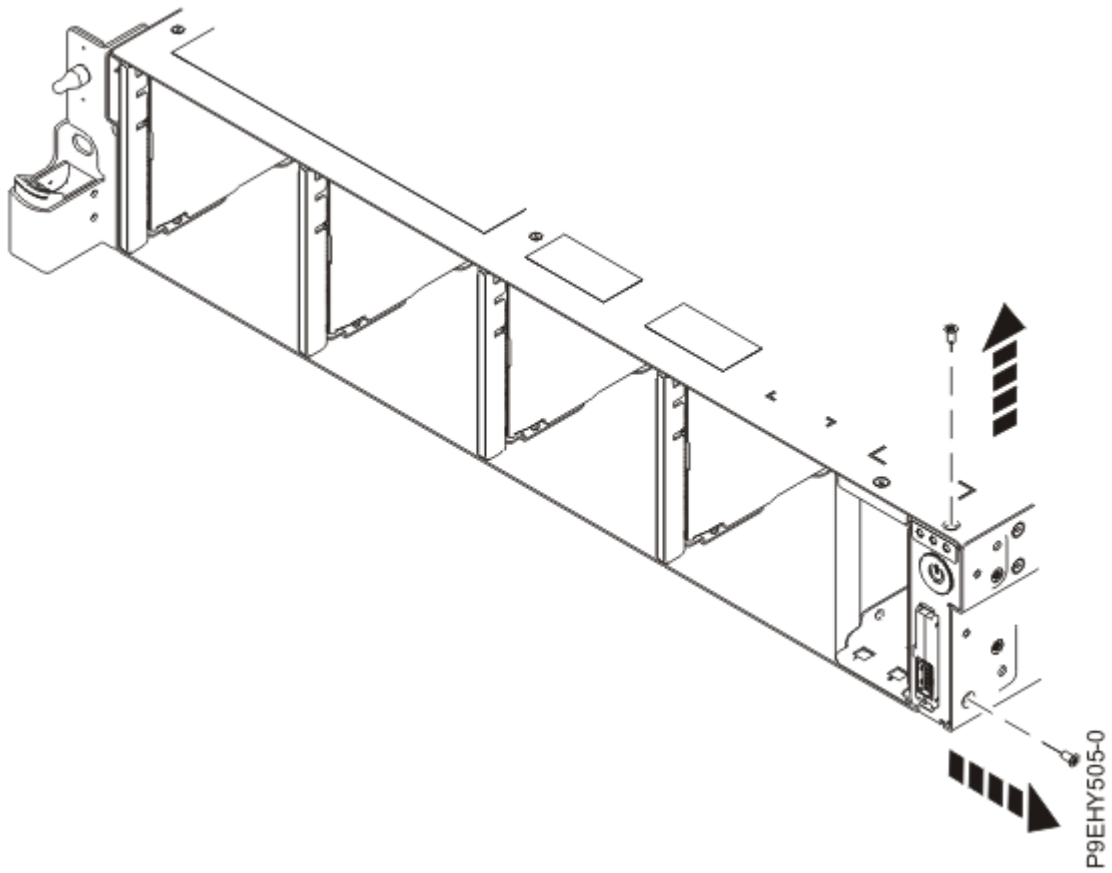

Figure 102. Remove the top and side screws
8. Remove the top and side screws from the power switch as shown in Figure 102 on page 123.